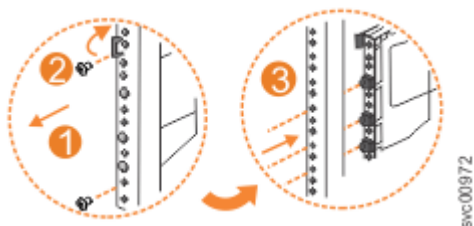

Figure 110. Remove the rail assembly from the front frame bracket
1. Remove the two screws that attach the outer rail section to the front bracket assembly, as shown in Figure 110 on page 105.
2. Remove the rail section by pulling it away from the front bracket, as shown in Figure 110 on page 105.